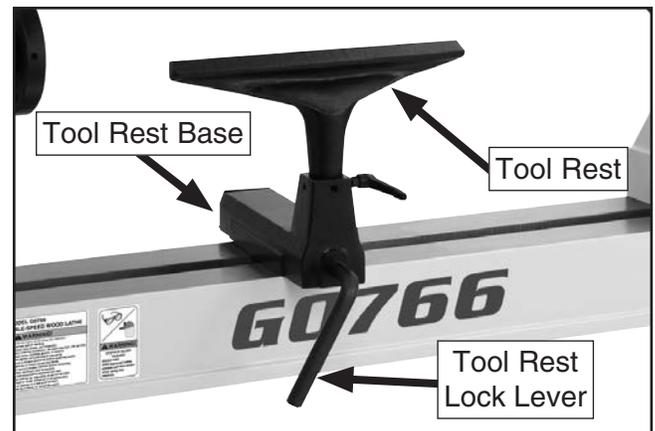

Figure 15. Tool rest installed on the tool rest base.
- Insert tool rest into tool rest base and tighten tool rest lock lever, as shown in **Figure 15**.